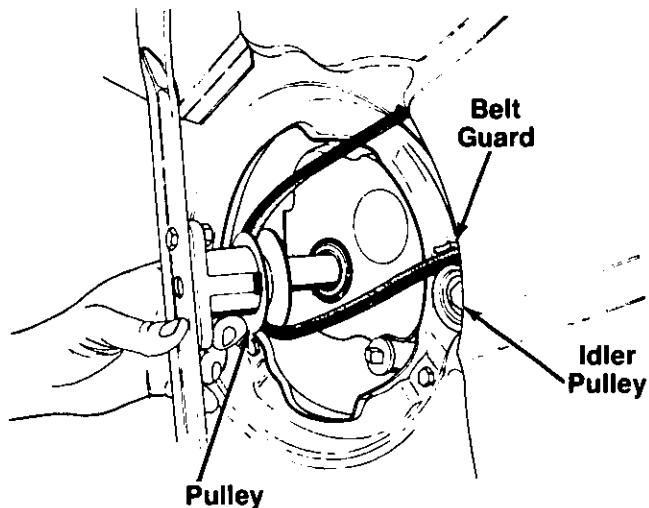

FIGURE 32.
8. Remove the belt from between the idler pulley and the belt guard on the idler pulley bracket. Refer to figure 32.
- C. Release the idler pulley so it falls down into position. Slide the belt in between the idler pulley and the belt guard on the idler pulley bracket as shown in figure 32.